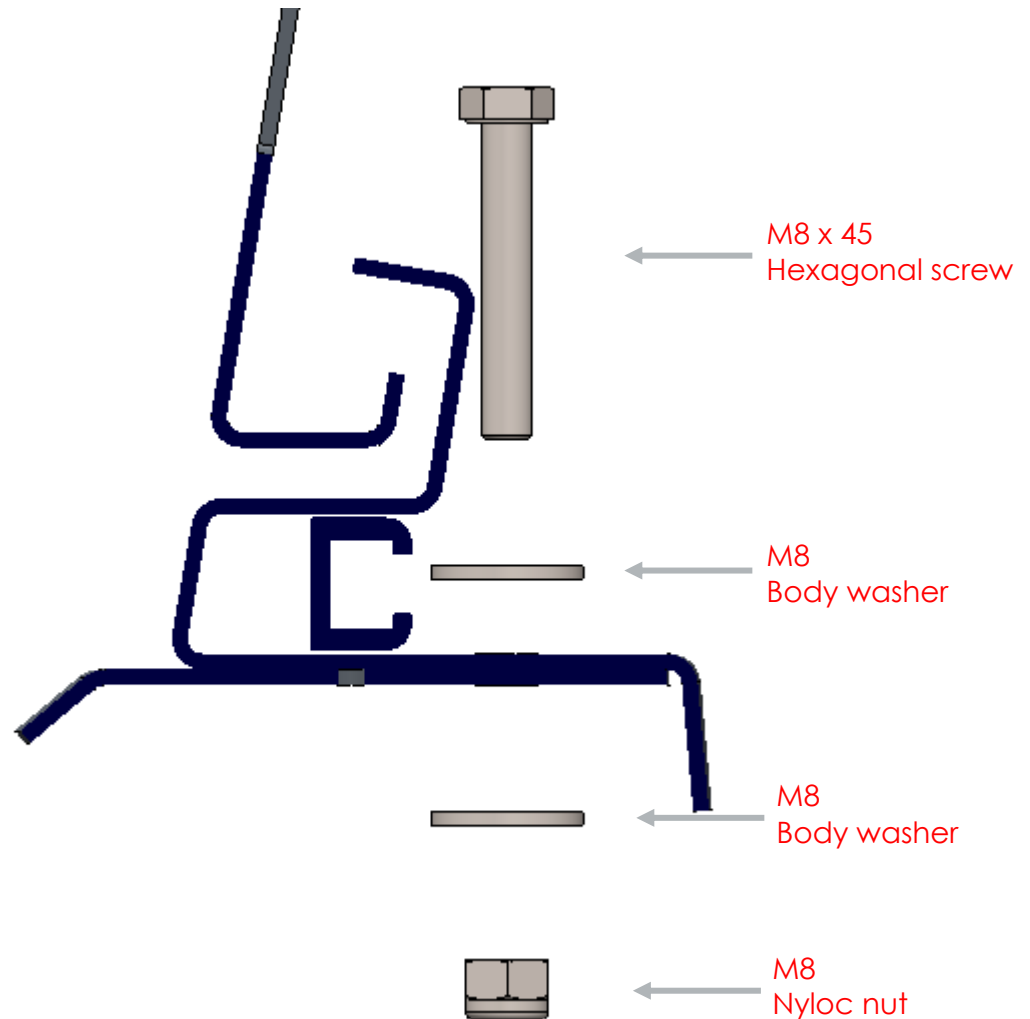

Fig. 2.5
- Secure the canopy to each hole in the load bed by means of a M8 body washer and M8 x 45 Hexagonal screw from the top, then a M8 body washer and M8 Nyloc nut from the bottom. Lightly fasten all fasteners. Fig. 2.5